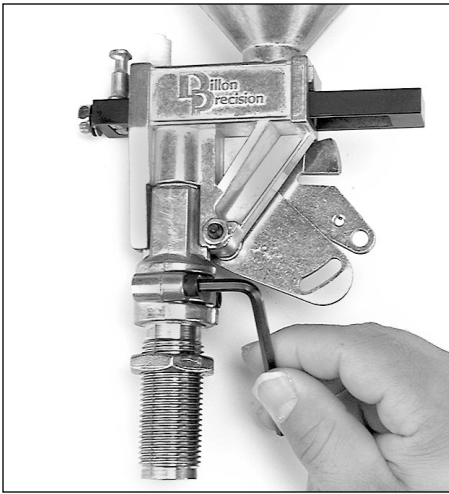

FIG 33
1. Use a 5/32" Allen wrench to loosen the two collar clamp screws and remove the powder die **FIG 33 & 34**.